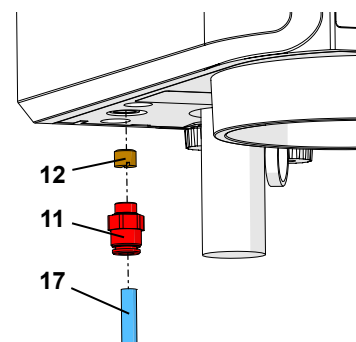

Fig. 15-a
**Inlet filter hidden, behind the compressed air connection (Fig. 15-b).**
- ⇒ Press the ring on the inlet filter (12) up and pull the compressed air hose (17) off.
- ⇒ Press the ring on the compressed air coupling (11) up and pull the inlet filter (12) off.